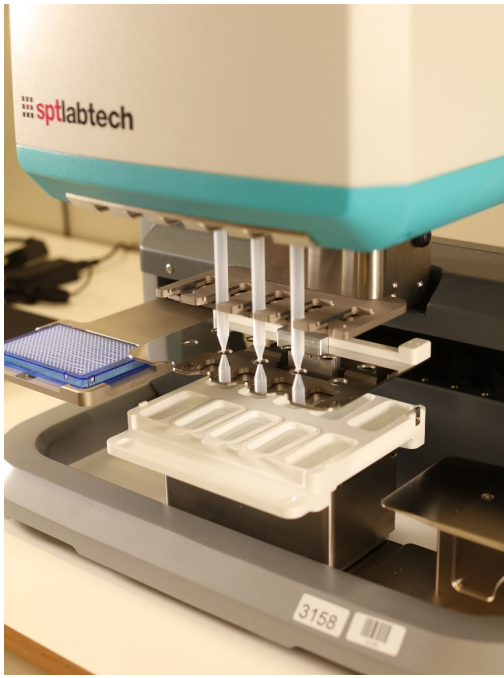

Figure 13. Reservoir tray in aspirate position
5. Carefully slide the reservoir tray back to the aspirate position (*Figure 13*).